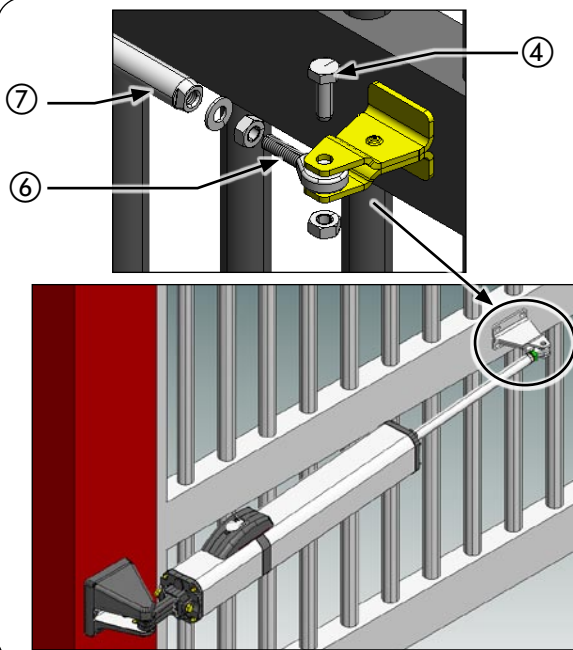

Fig.24
2. Remove the screw in Fig. 24 ref.④ from the front fitting
3. Remove the joint (Fig.24 ref.⑥) from the operator stem. (Fig. 24 ref. ⑦).